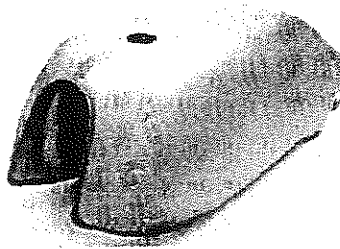

Fig.8. Two wheeler Petrol tank
- (b) Within the realm of fuel tank design for two-wheelers (Fig. 8), how can the principles of Design for Additive Manufacturing (DFAM) be effectively employed to innovate the construction of a lightweight, efficient fuel tank, utilizing additive manufacturing techniques? Discuss the strategic implementation of additive manufacturing based part orientation and the removal of supports to optimize manufacturability and performance, while considering design features like hollowing out parts and the incorporation of undercuts to maximize fuel capacity and structural integrity.